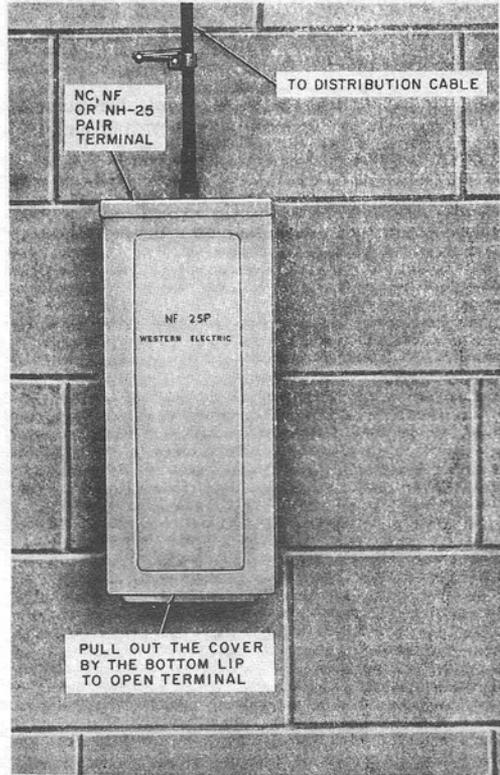

Fig. 38—Terminal Arranged for Splicing to Aerial Cable
(4) The terminal stub should be arranged for splicing the aerial or buried cable as shown in Fig. 38 and 39.